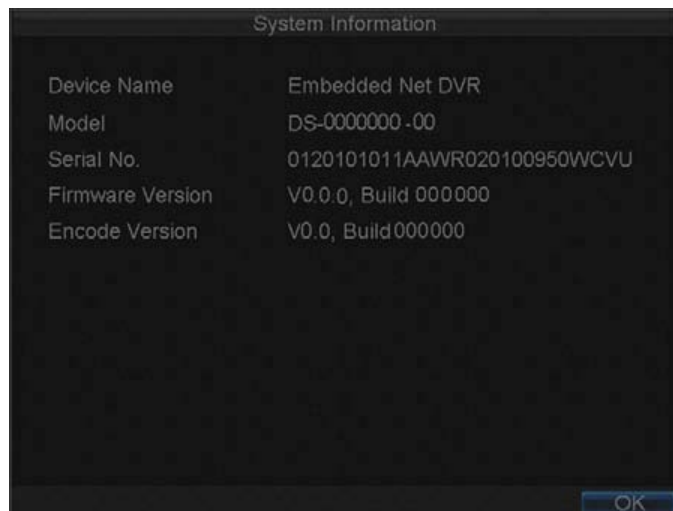

Figure 14.13. System Information
- 1) Click Menu > Maintenance > Information to enter the Information menu, shown in Figure 14.13.